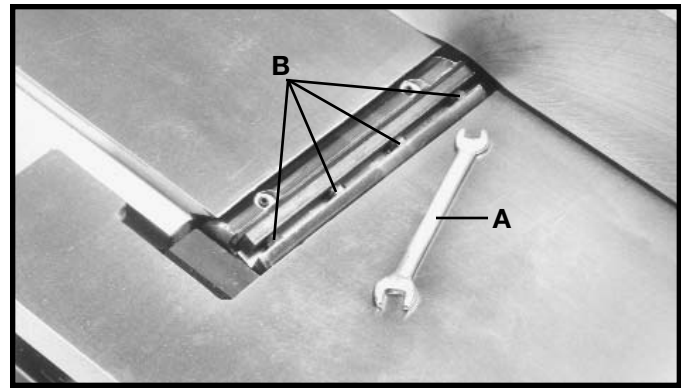

Fig. 54
2. Using wrench (A) Fig. 54, slightly loosen the four locking screws (B) in each knife slot by turning the screws (B) clockwise.
3. Loosen screws (B) Fig. 54, further and remove knife and knife locking bar.
⚠ WARNING **CARE MUST BE TAKEN WHEN INSERTING THE KNIVES AS THE CUTTING EDGES ARE VERY SHARP.** Push the knife down as far as possible and snug up the screws (B) Fig. 54, by turning each screw counterclockwise just enough to hold the knife in position. Replace the remaining two knives in the same manner.